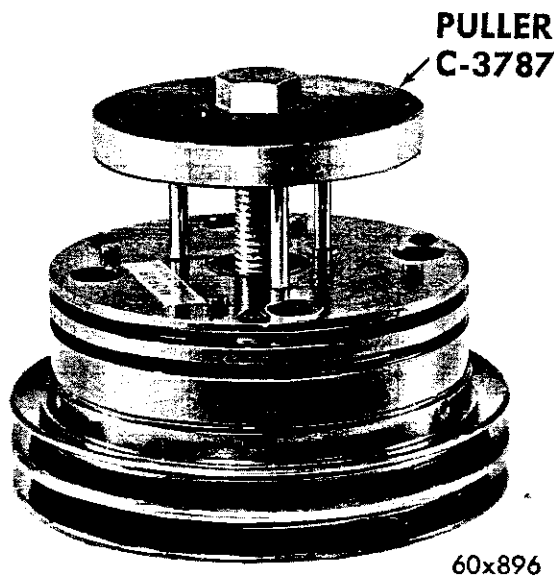
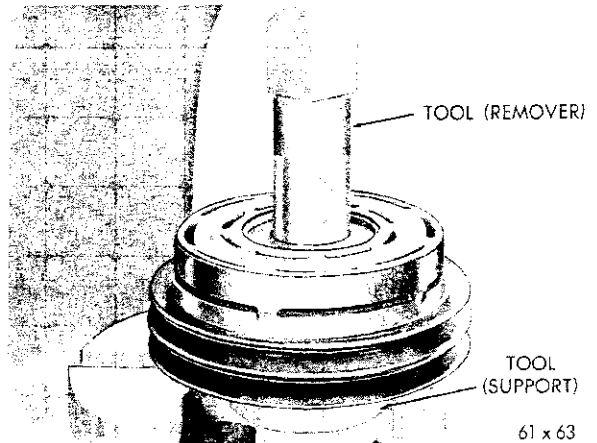

Fig. 34—Removing the Hub and Shoe Assembly
Fig. 35—Removing the Bearing from the Pulley Assembly
(2) Install the drive hub puller Tool C-3787 aligning the three pins of the Tool in the three holes in the hub and shoe assembly. Tighten the hex head bolt down until the drive hub is removed from the bearing (See Fig. 34).
(3) Remove the bearing snap ring from the pulley assembly.
(4) Place the pulley assembly on an arbor press, with the pulley side down, and the bearing hub centered on Tool C-3835. Install the Tool SP-3496 on the inner race of the bearing, and press the bearing from the pulley assembly. (See Fig. 35).